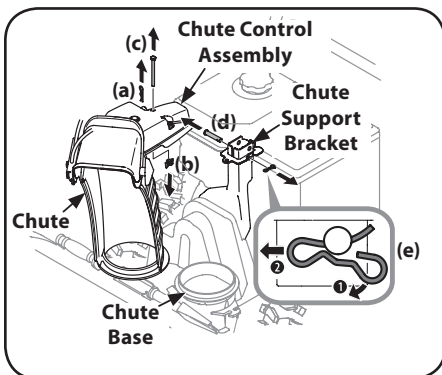

Figure 2-13
1. Remove hairpin clip (a), wing nut (b) and hex screw (c) from chute control assembly and clevis pin (d) and bow-tie cotter pin (e) from chute support bracket. See Figure 2-13